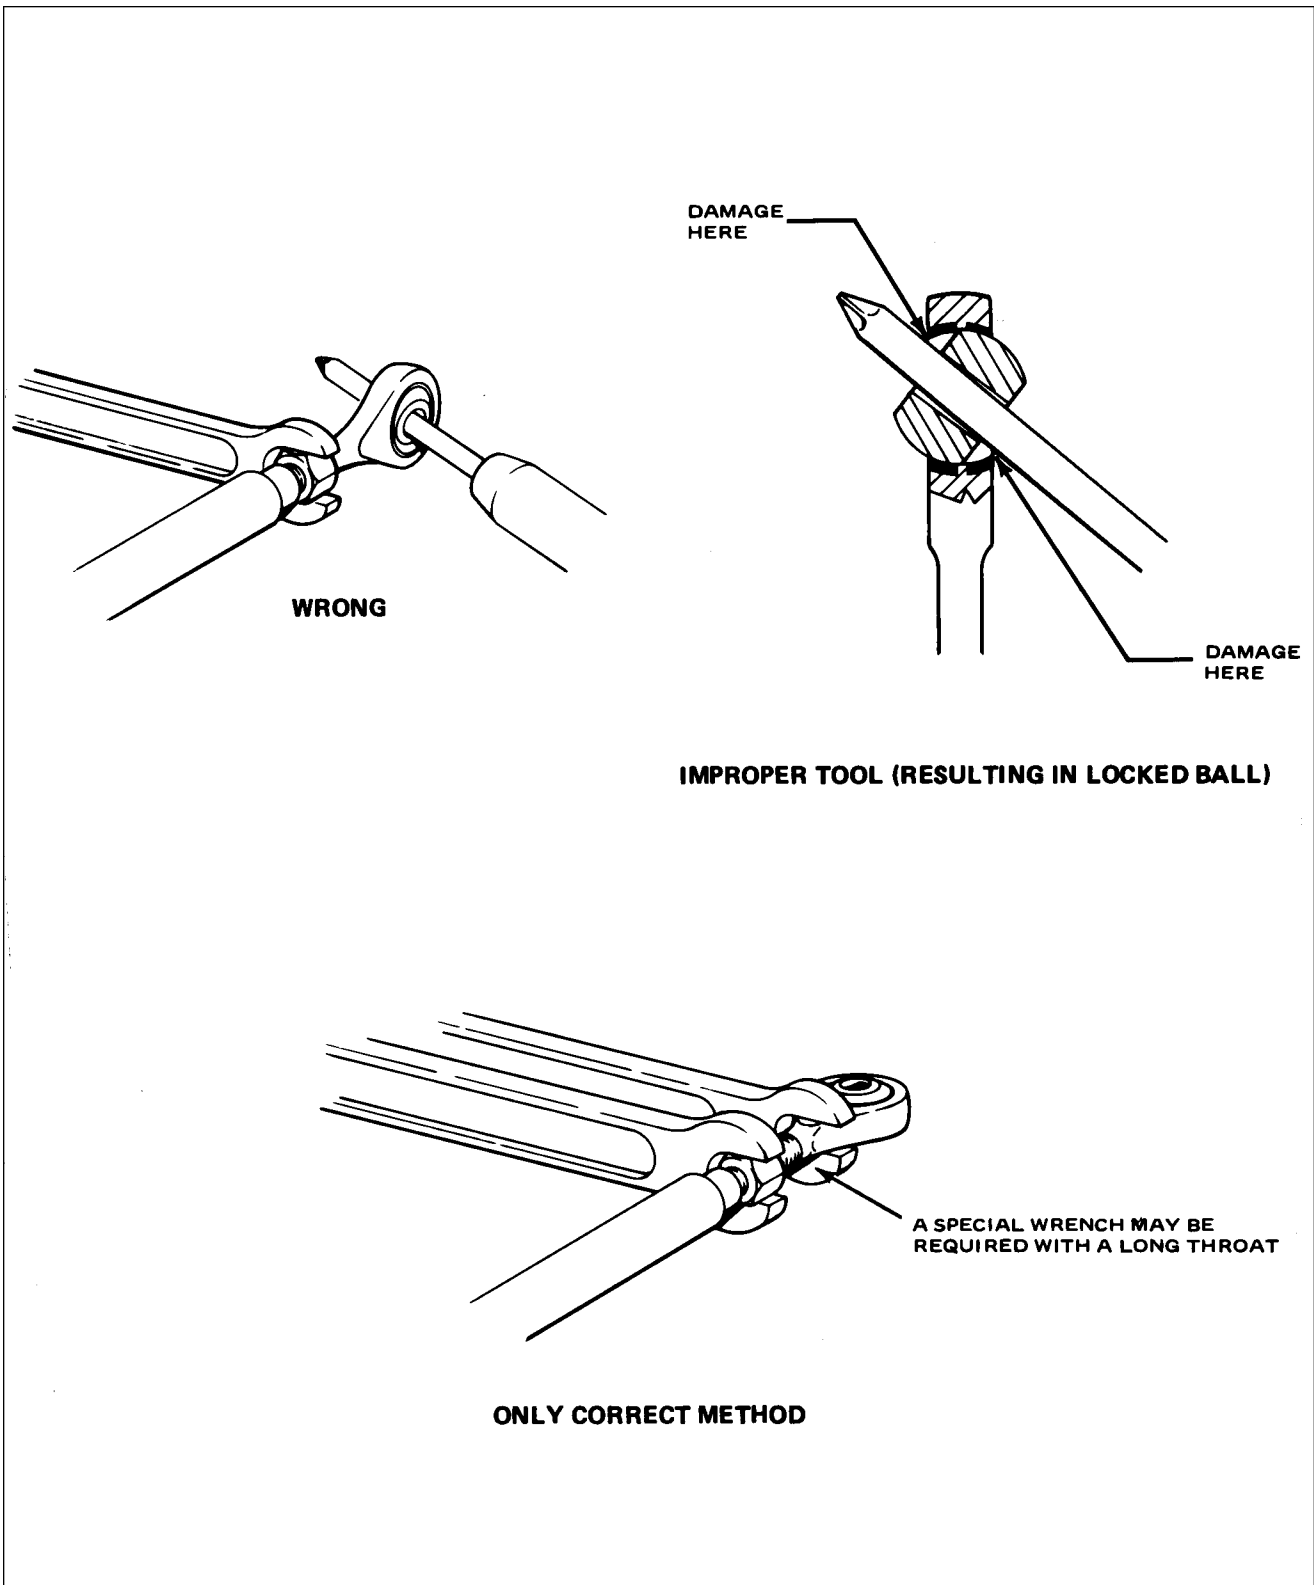

Figure 27-1. Correct Method of Installing Rod End Bearings
10. After completion of adjustments, each jam nut must be tightened securely. Make sure they are installed as shown in Figure 27-1.